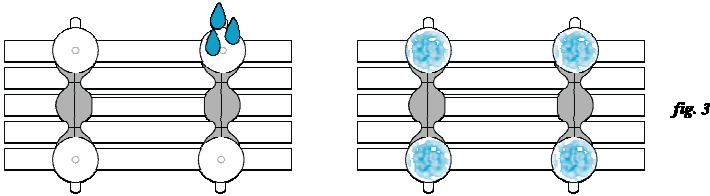

fig. 3
2. Take the bath seat and dampen the four suction pads on the underside of the seat (see fig. 3).